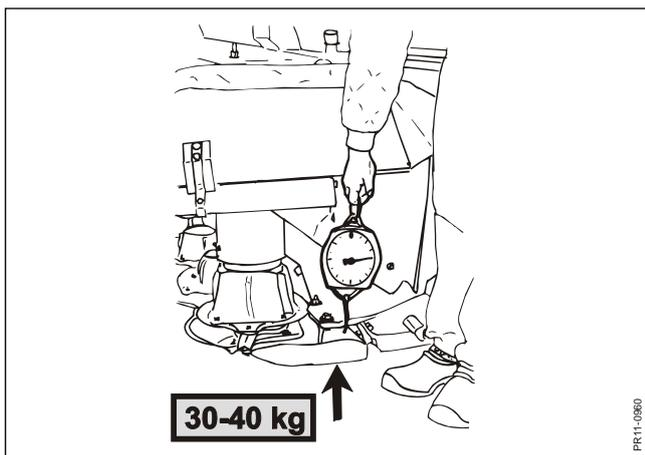

Fig. 3-13
- Fig. 3-13** In principle the spring adjustments can be adjusted in such a way that the cutter bar is floating. First you can for instance tighten the springs adjusting the lift power of the cutter bar to **30-40 kg on each side** (where the spring weight is used as a help).